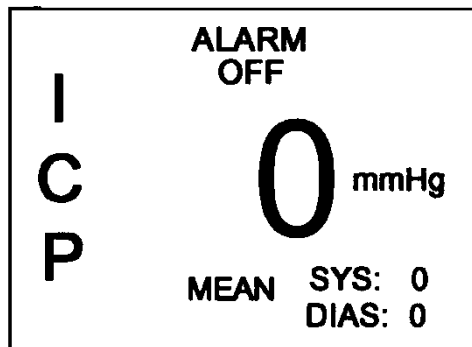

Figure 12
- 13.4.2.7 Verify that the display changes to the standard run mode per Figure 12 with the mean, systolic and diastolic pressures reading zero +/- 1 mmHg. Verify that the ALARM is in the OFF condition and that no ALARM LIMITS are displayed on the screen. Record values.